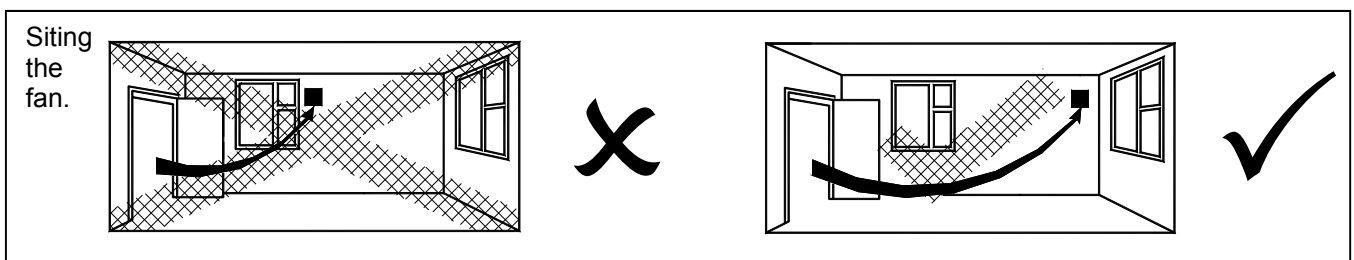

Fig.1 (Solo Pro SVP)
1. Select and follow the appropriate wiring diagram. (Fig. 1, 2 or 3)